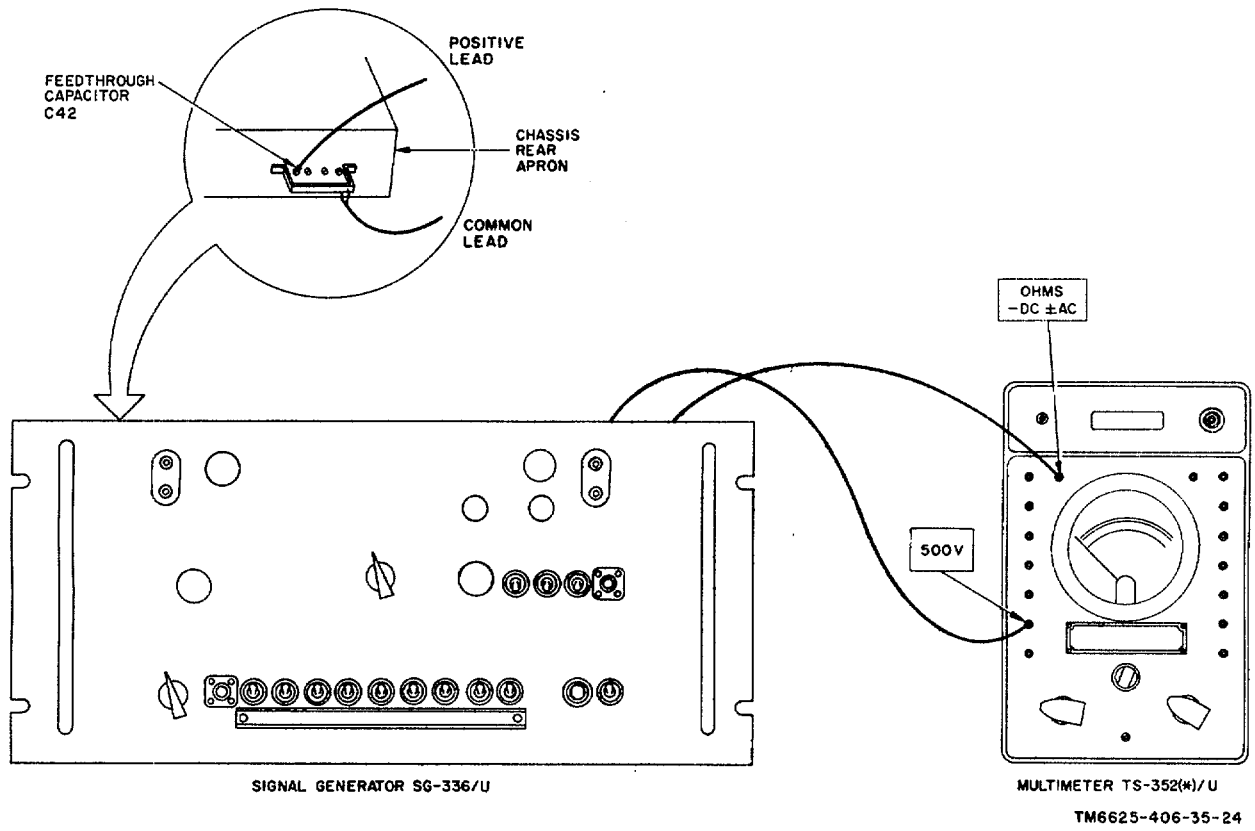

Figure 19. Power supply output voltage test connections.
b. *Test Connections and Conditions.* Connect the equipment as shown in figure 19.